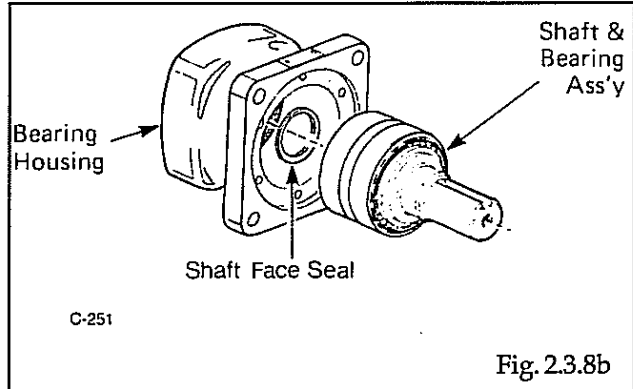

Fig. 2.3.8b
2. Install the shaft and bearing assembly in the housing (Fig. 2.3.8b). A press may be required to install the shaft and bearing assembly.